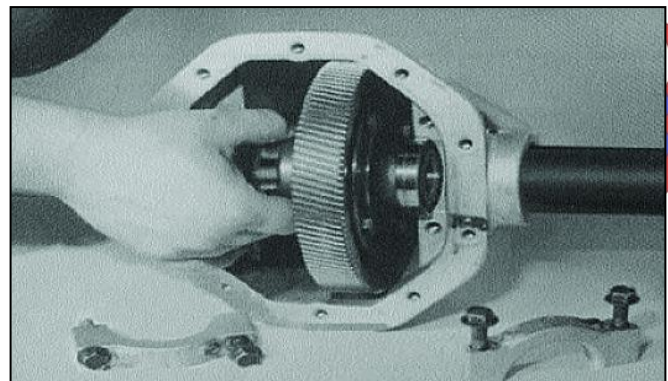

Figure 7-21
- Differential bearings (14) can be installed on differential case (15) before or after installing ring gear. Use care not to damage differential bearings or final gear (18) when installing the opposite component.
- See Figure 7-21. Position housing (1) with opening facing up. Insert differential case, final drive gear (18) and bearing (14) assembly into housing. Make sure teeth of gear (18) mesh with teeth of small gear on intermediate shaft (13) and that both turn freely.